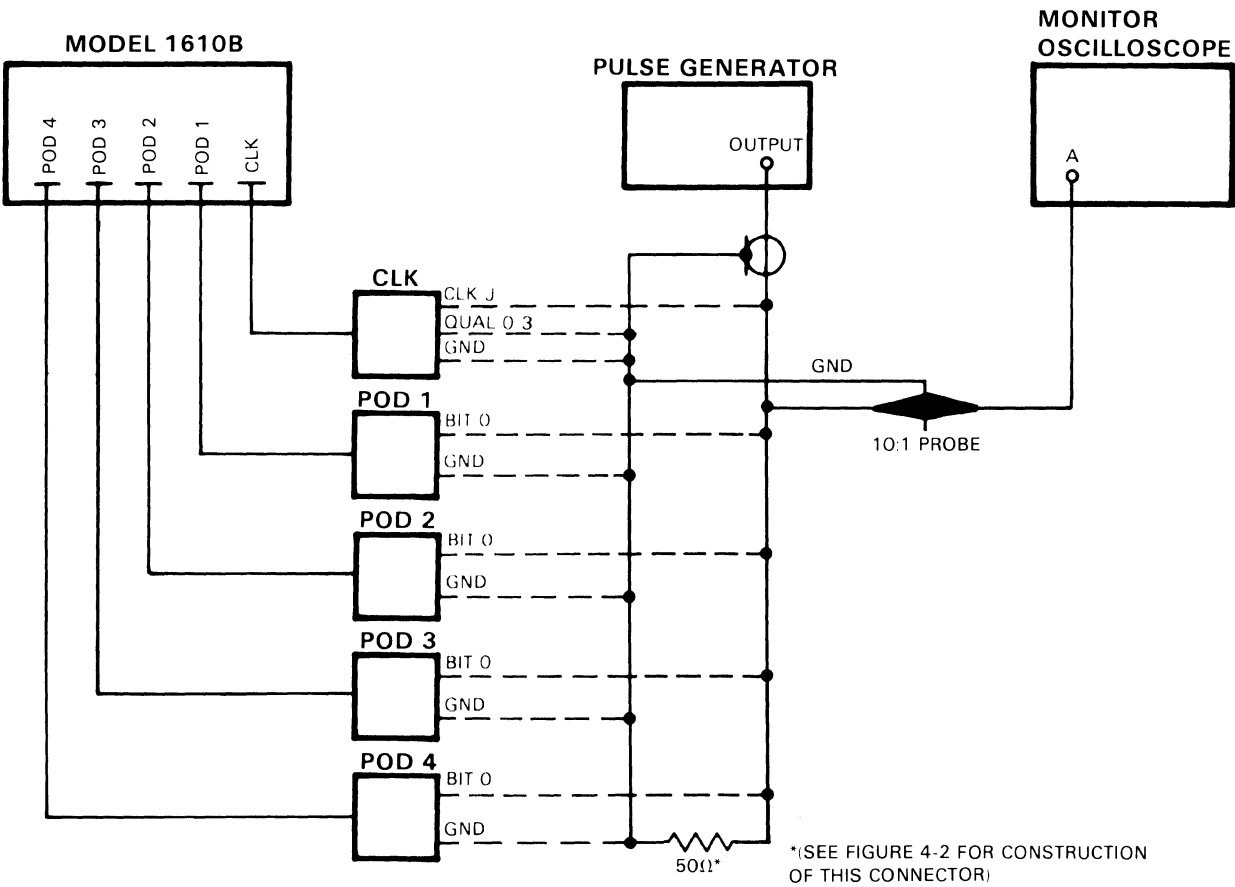

Figure 4-5. Input Threshold Range Test Setup
- Connect Clock J input to pulse generator as shown in figure 4-5.
- k. Connect bit 0 of pods 1 thru 4 to pulse generator as shown in figure 4-5.